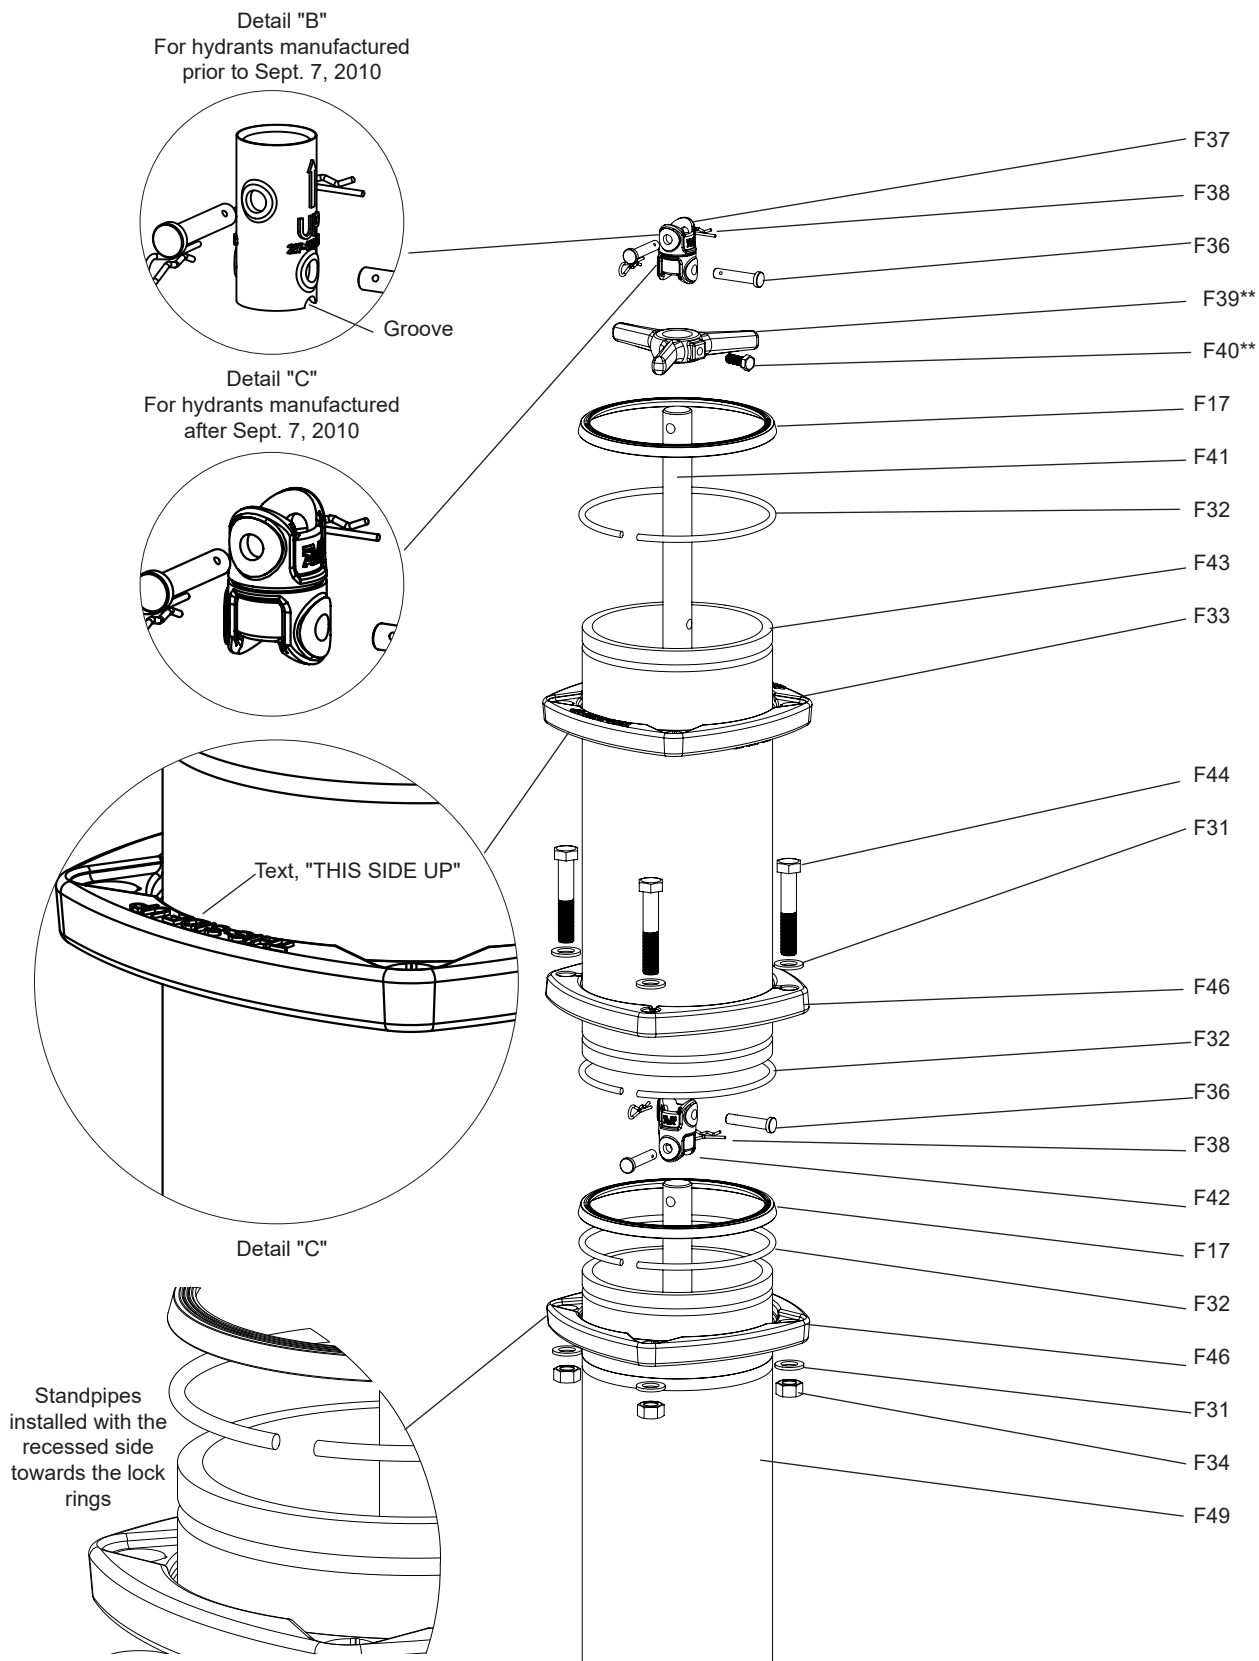

Fig. 10
##### 6.1 EXTENSION KITS: Fig. 10
17. Align the bolt holes on the two standpipe flanges (F46) and install the extension barrel bolts (F44), nuts (F34), and washers (F31) as shown in figure 10. Tighten to 110 Nm.